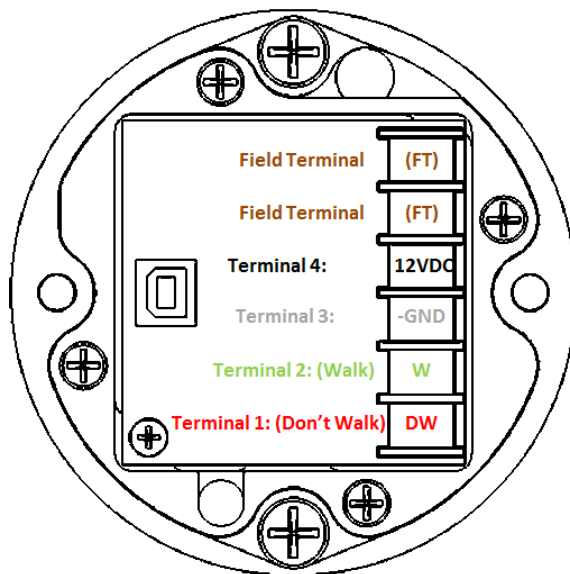

Figure 1
6. Connect the four wires to the terminal block connections as shown in Figure 1.
7. If there are pedestrian field terminal wires present at the station connect them to the terminal block in the positions shown in Figure 1.